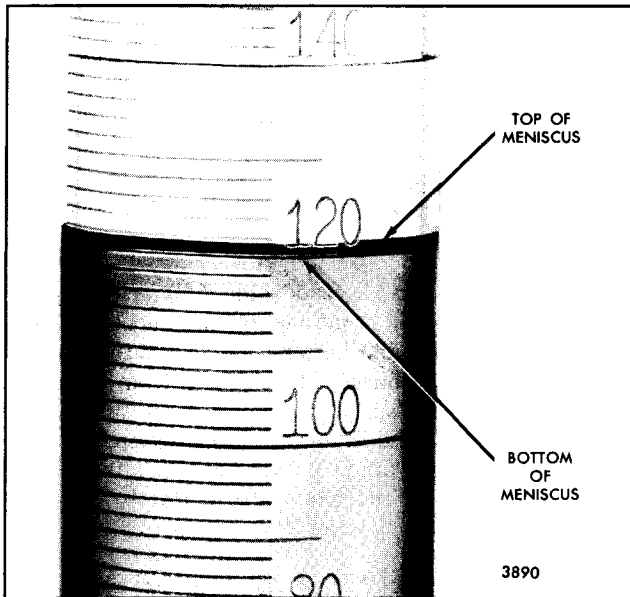

Fig. 1 - Checking Fuel Output
1. **Operator Errors:** If the column of liquid in the vial is read at the top of the meniscus instead of at the bottom, a variation of 1 or 2 points will result. Refer to Fig. 1.